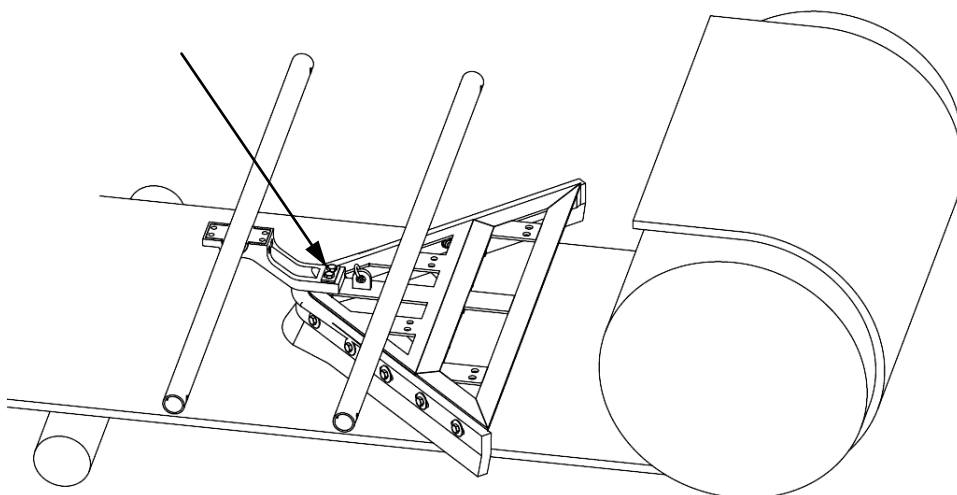

Figure 5
3. Separate the clamp elements of one of the torsion arms and fasten the main part of the arm to the frame using the washer plate and M12 bolts as shown in Figure 5.